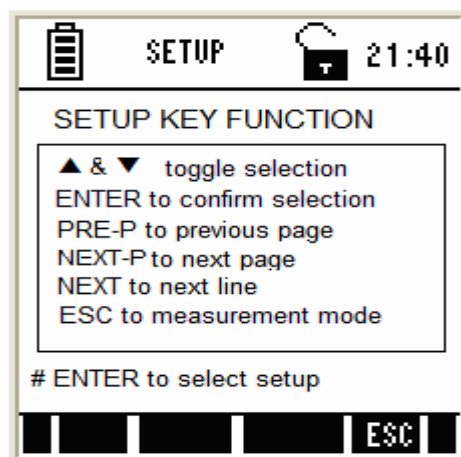

Figure 43: Setup Key Function screen
7. When the correct password is entered, the Setup Key Function Screen appears. (Figure 43)